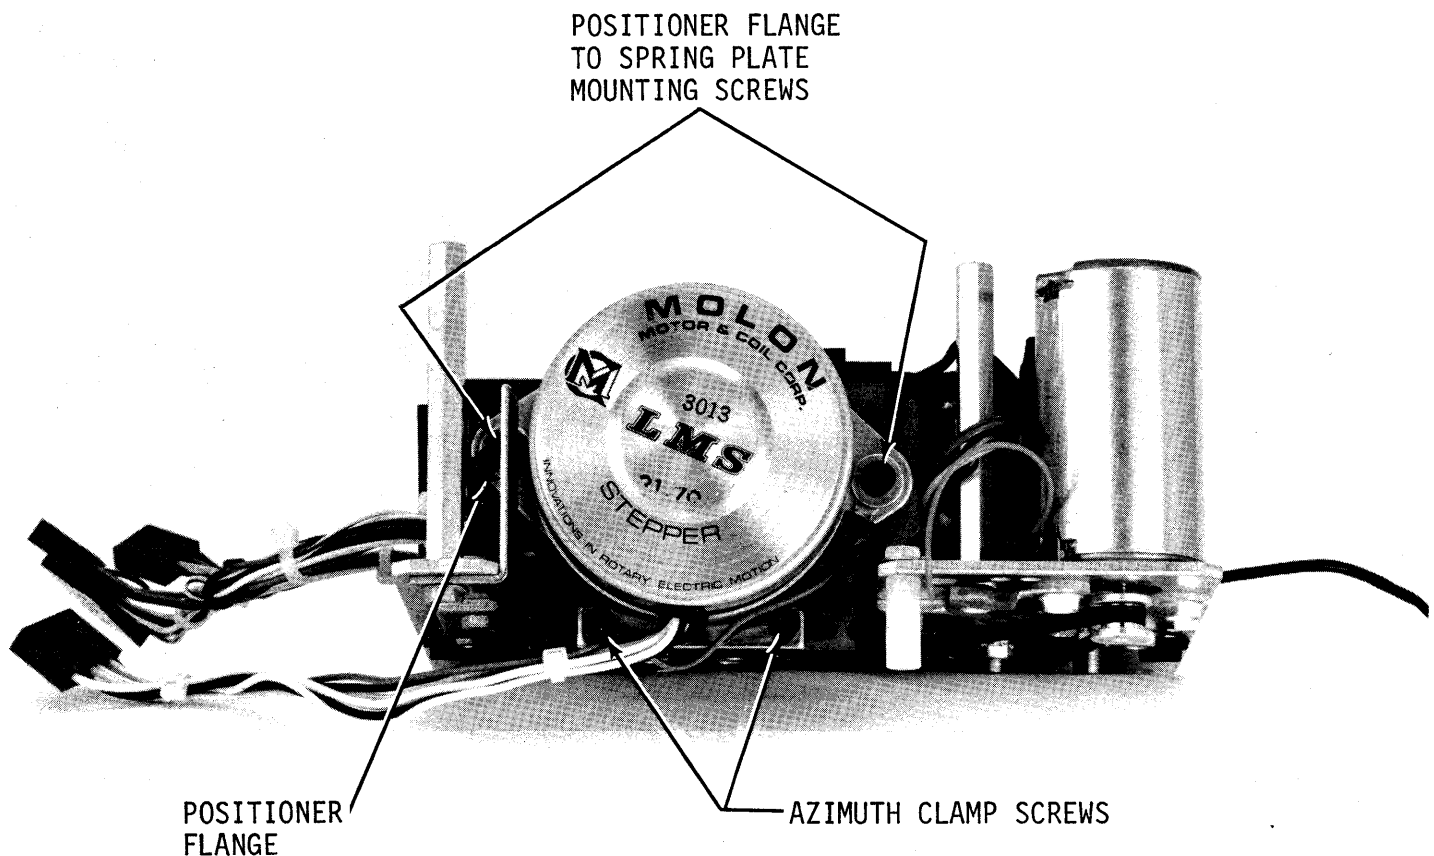

Figure 4-8. Positioner Adjustments
- j. Loosen the two positioner flange mounting screws that clamp the positioner flange to the spring plate (see figure 4-8).